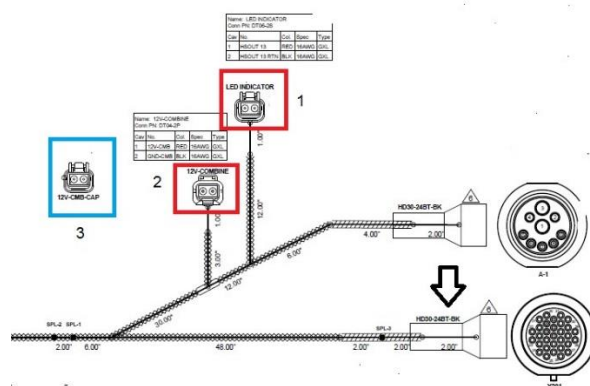

Figure 186
1. Make certain on the multi-coupler harness the 12-volt combine connector, 2, is attached to the LED connector, 1. This provides power to the system. Figure 186